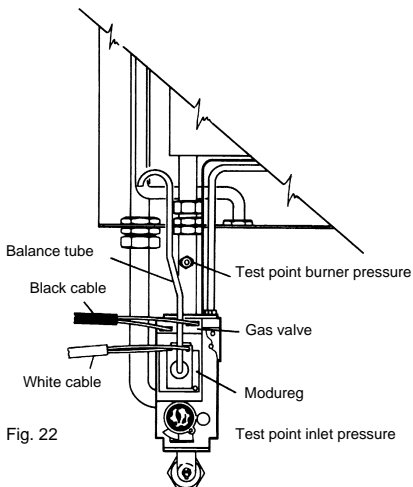

Fig. 22
- b. Loosen the screw in the burner pressure test point (fig. 22) and attach a gauge.